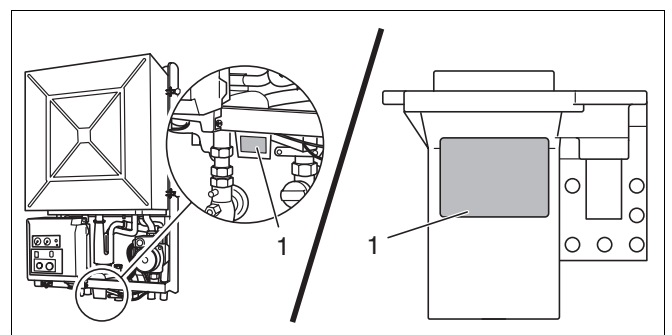

Fig. 64 Place new stickers
- Cover stickers (fig. 64, item 1) with the new stickers (2 pieces, included in conversion kit).